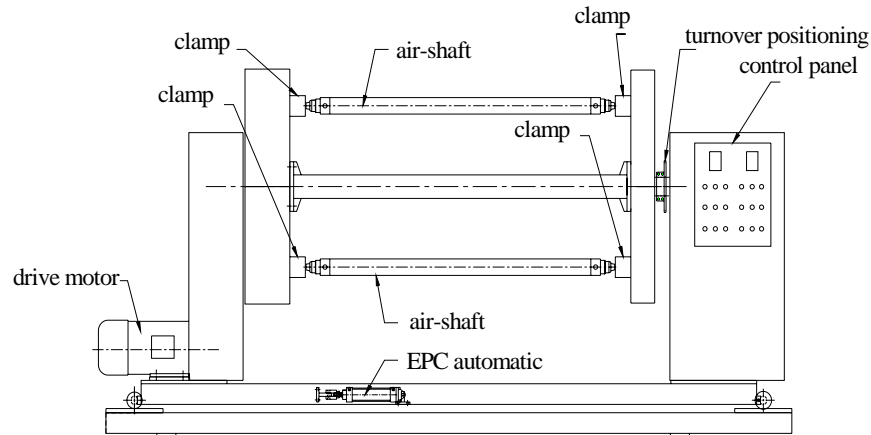

Fig. 1
4.1 Unwinding structure (Fig.1)